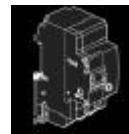

Figure 6: Protection device and/or contact switch.
- Hydraulic circuit bypass valve, see Figure 6.
Minimum heat pump water input flow must not be under the value required for the model in question. See Paragraph 2. For system layouts such as that in Figure 6, water flow can be regulated using the bypass valve.